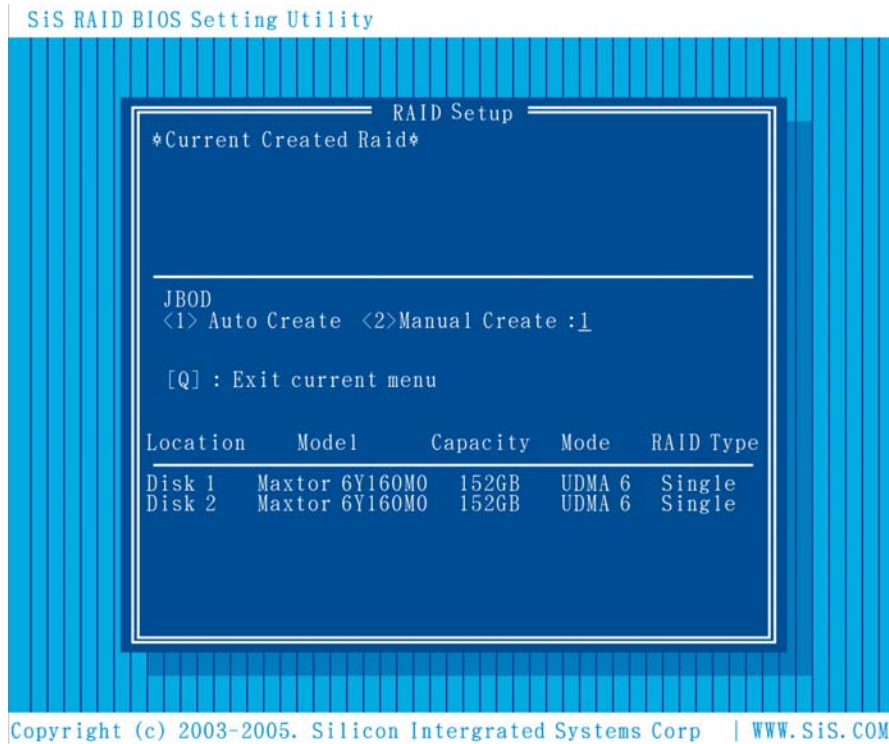

Figure 8-5: JBOD Configuration
Step 2: The screen in **Figure 8-5** appears.